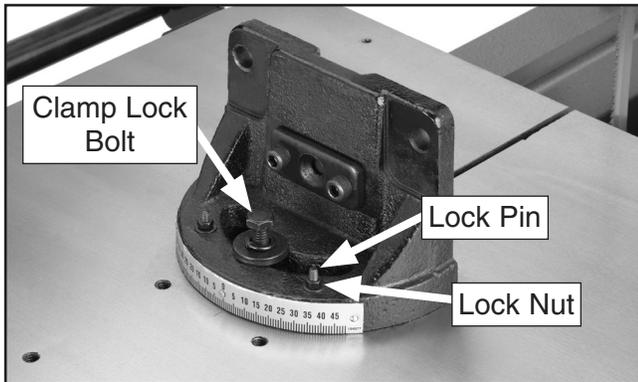

Figure 18. Clamp vise angle.
1. The lock pins secure the vise angle at 90°. For angles other than 90°, remove the lock pins from the vise. If they do not pull out by hand, turn the lock nuts clockwise to release the pins from their holes (Figure 18).